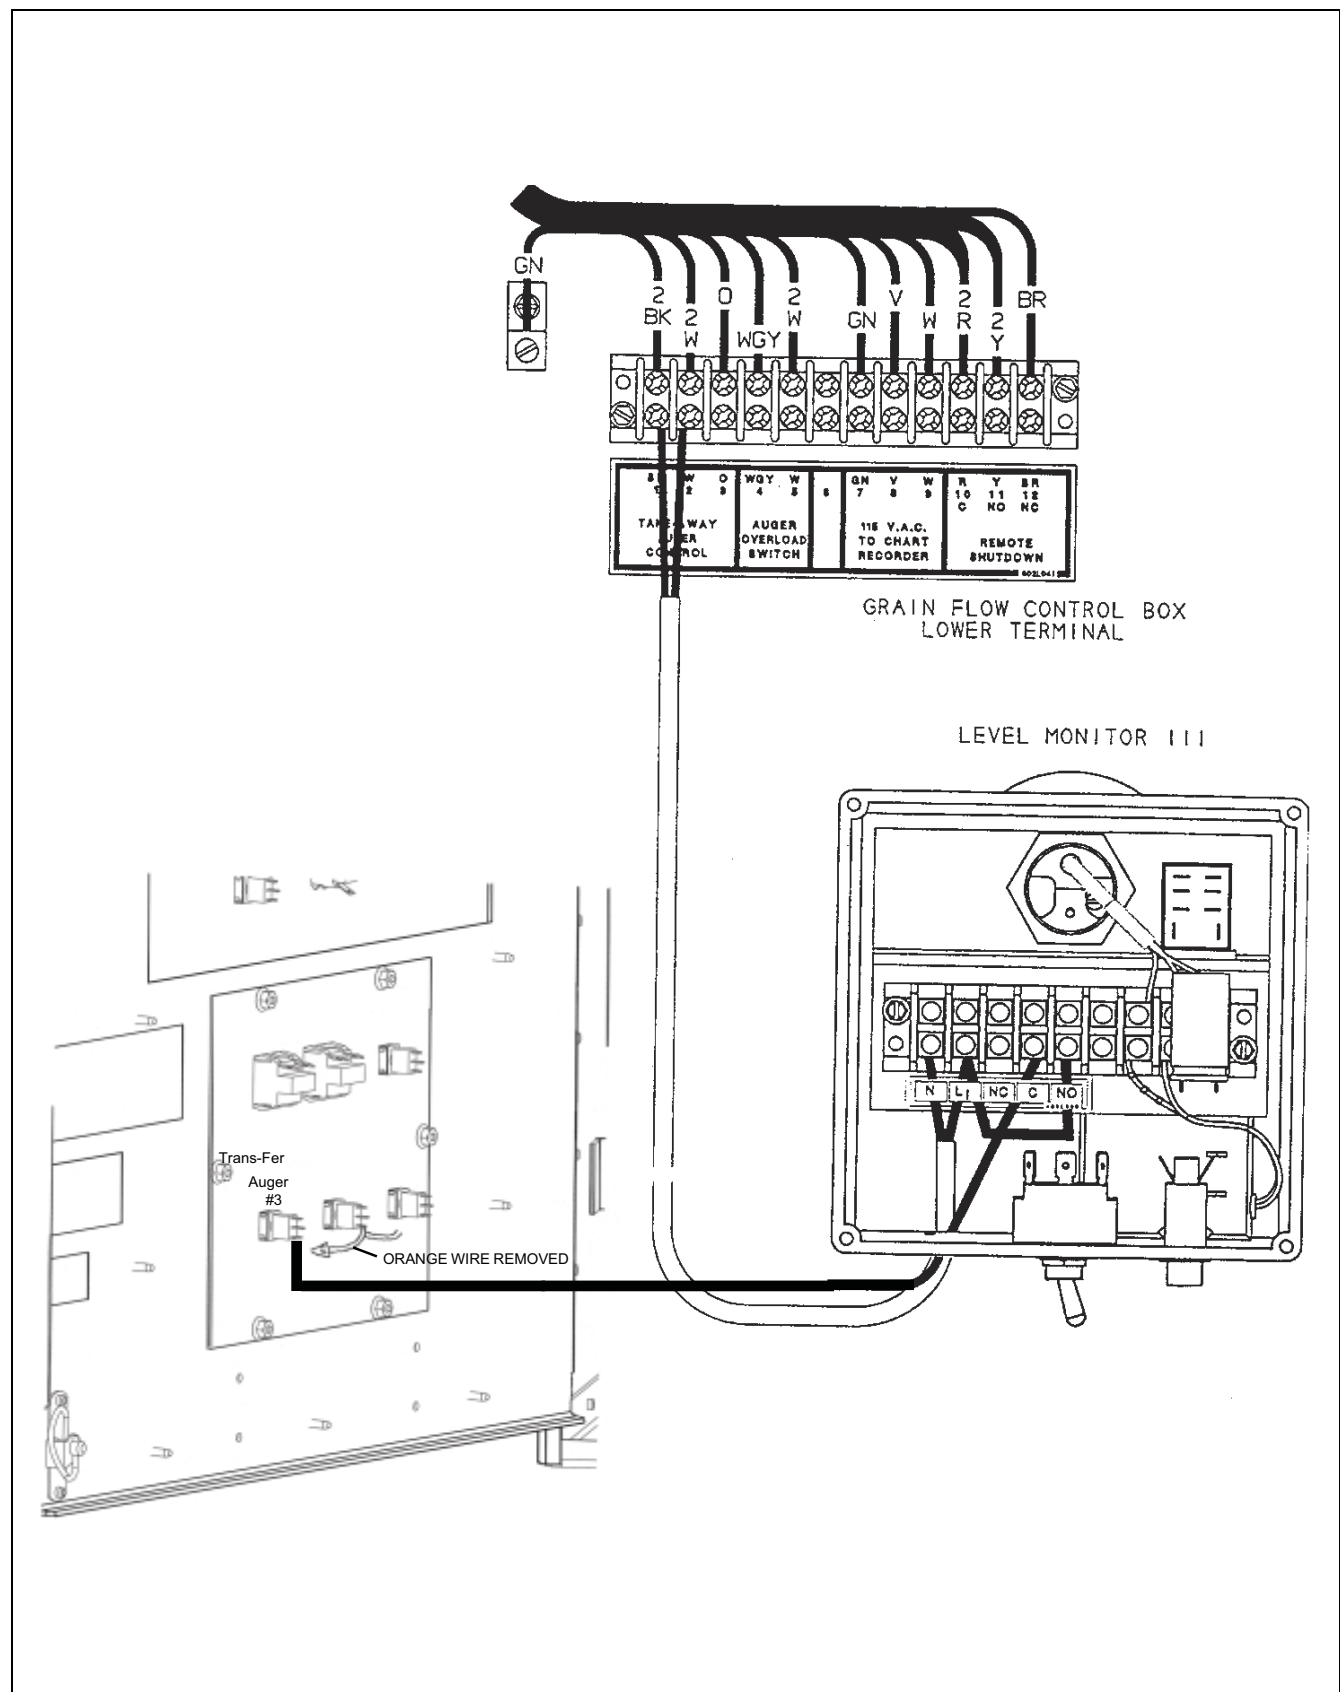

Figure 11E
2. Remove the orange wire from the bottom of the third take-away auger switch and insulate. From this switch terminal run a wire to the "C" on the level monitor. Put a jumper from the N.O. to L1 on the terminal strip in the level monitor. (See Figure 11E on Page 102.)